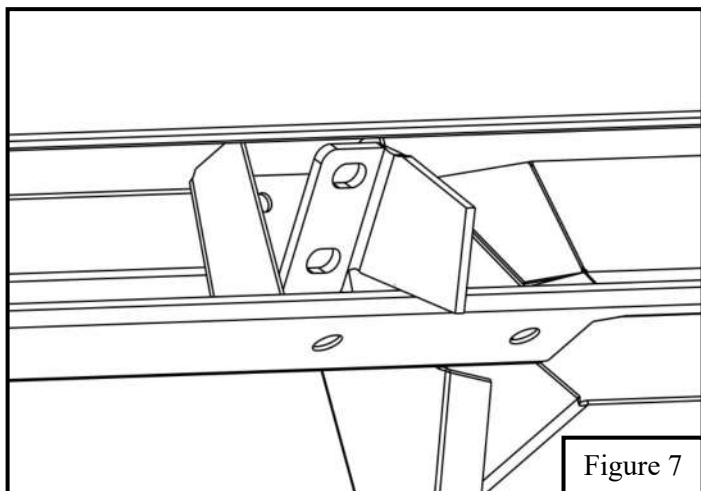

Figure 7
7. Before installing board to the previously installed brackets tilt backwards for easy entry into mount location. See **Figure 7**